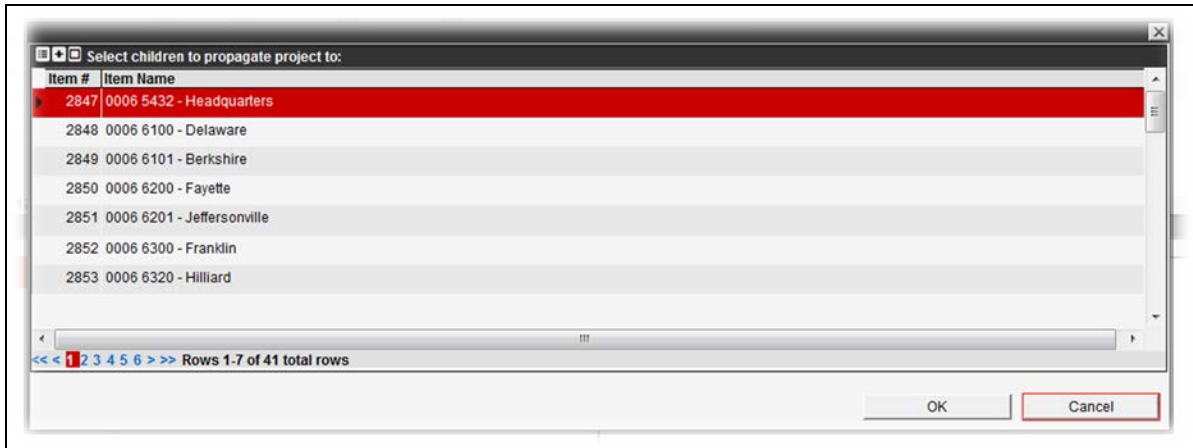

Figure 2-8. Project Add Propagation Selection
- b. If one or more Division/Cost Centers are available for selection, the list of available Divisions/Cost Centers appears in a dialog box (Figure 2-8).
- c. Select any Division/Cost Centers as needed (Figure 2-8), by holding the CTRL or SHIFT key while making cursor selections if selecting multiple items. Selections appear highlighted.
TIP! If the need arises to revisit the selections made in Figure 2-8, the **Delete Children Projects** function may be used, to modify existing selections.